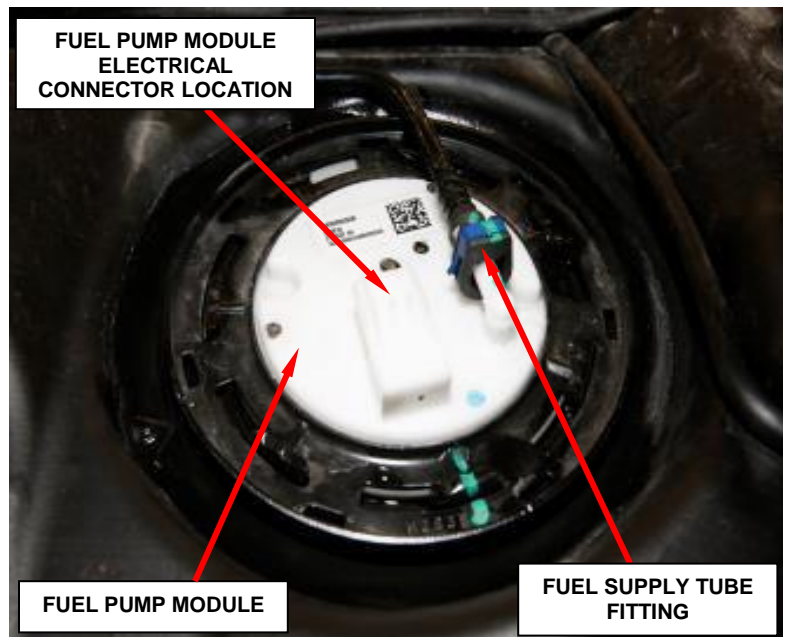

Figure 7 – Fuel Pump Module
21. Disconnect the electrical connector from the fuel pump module (Figure 7).
22. Disconnect the fuel supply tube quick-connect fitting from the fuel pump module (Figure 7).